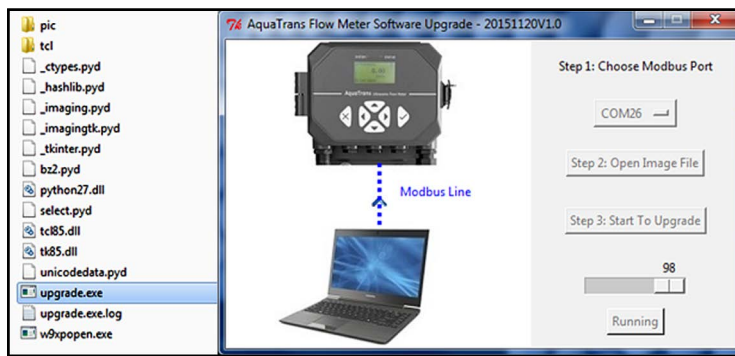

Figure 37: Running the update.exe software
3. Run the update software by clicking on the upgrade.exe file (see *Figure 37* below). Installation of the software on the PC is not required.